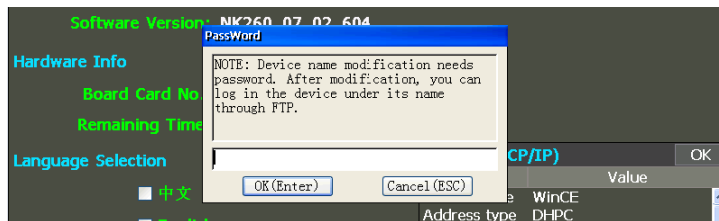

Fig. 3-64 Device Info Modification- Password Input
- 3) Click “ModDevice” to access the password input interface, as shown in Fig. 3-64.